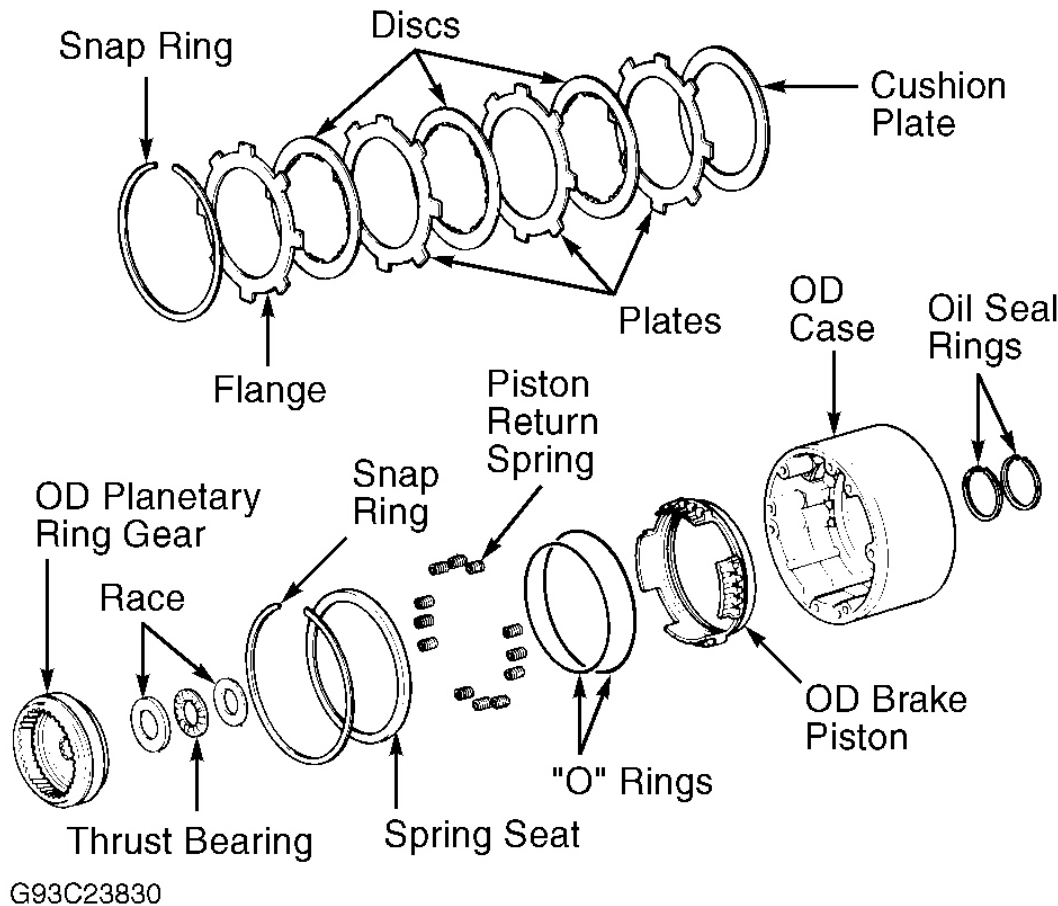

Fig. 26: Exploded View Of OD Brake Components
1. Prior to disassembly, check OD brake clutch pack clearance. Using a feeler gauge, measure clearance between snap ring and flange. See **Fig. 25** . See **OVERDRIVE BRAKE CLEARANCE SPECIFICATIONS** table. If clearance is not as specified, inspect discs. Remove snap ring from OD case. Remove flange, discs, plates and cushion plate. Note location and number of components. See **Fig. 26** .
2. Install piston return springs. See **Fig. 26** . Install spring seat and snap ring. Ensure end gap of snap ring is not aligned with notch in OD case. Ensure snap ring is fully seated in groove of OD case. See **Fig. 27** .